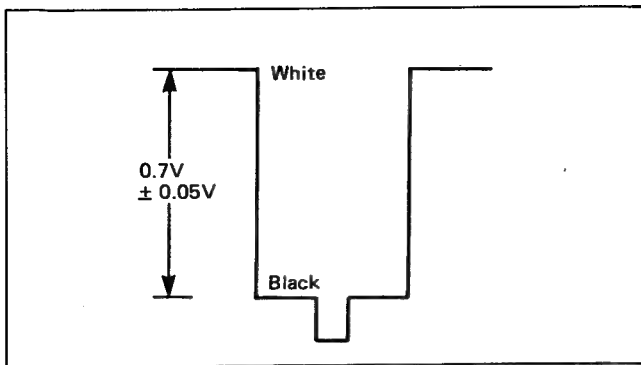

Fig. 20
- Adjust Sub Contrast control VR (R353) to achieve 0.7V  $\pm$  0.05V on the oscilloscope as shown in Fig. 20.